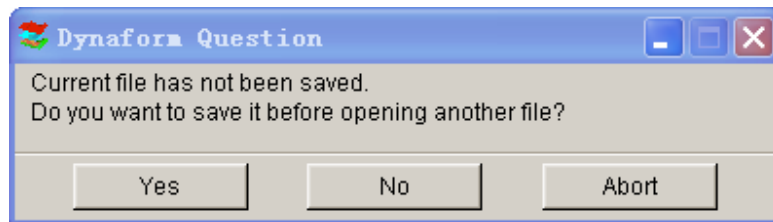

Figure 3.1.1 New File Prompt
- When a database file is opened in eta/DYNAFORM, a warning message prompts to save the opened file before creating a new one. See Figure 3.1.1.